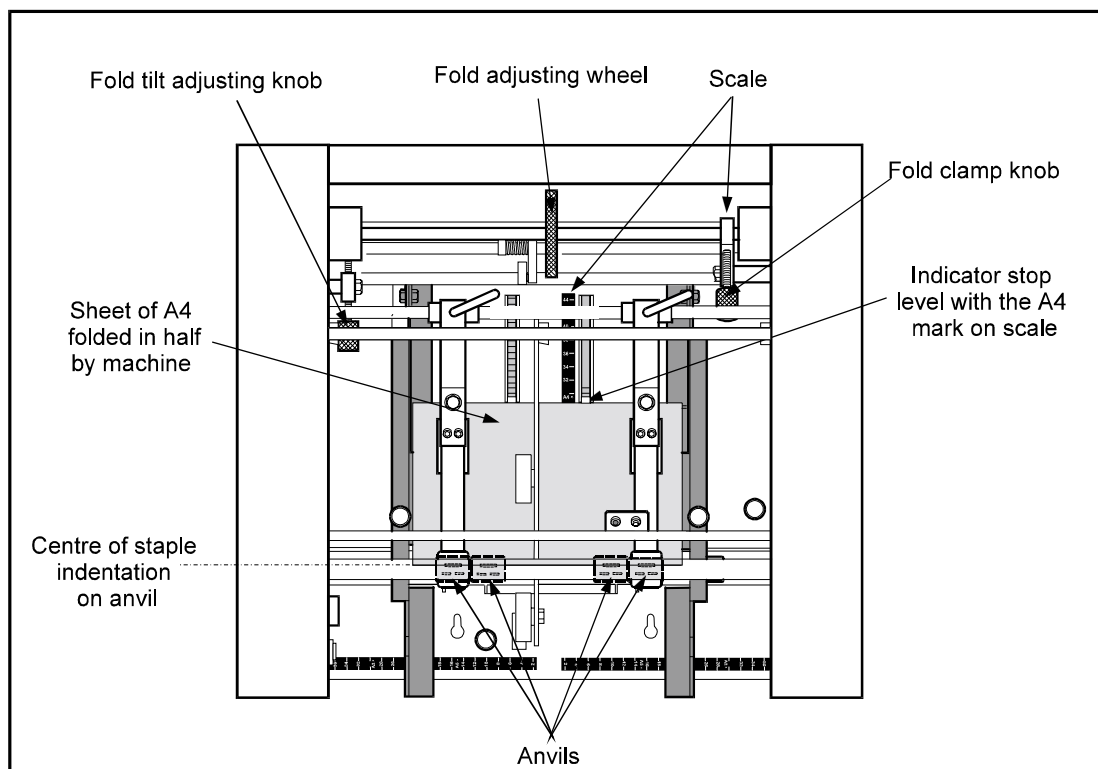

Figure 5.1 - View showing plan of machine.
3. Release the fold stop clamp and turn the fold stop adjustment wheel to set the indicator stop at 'A4' (8½" x 11") on the scale. Figure 5.1.